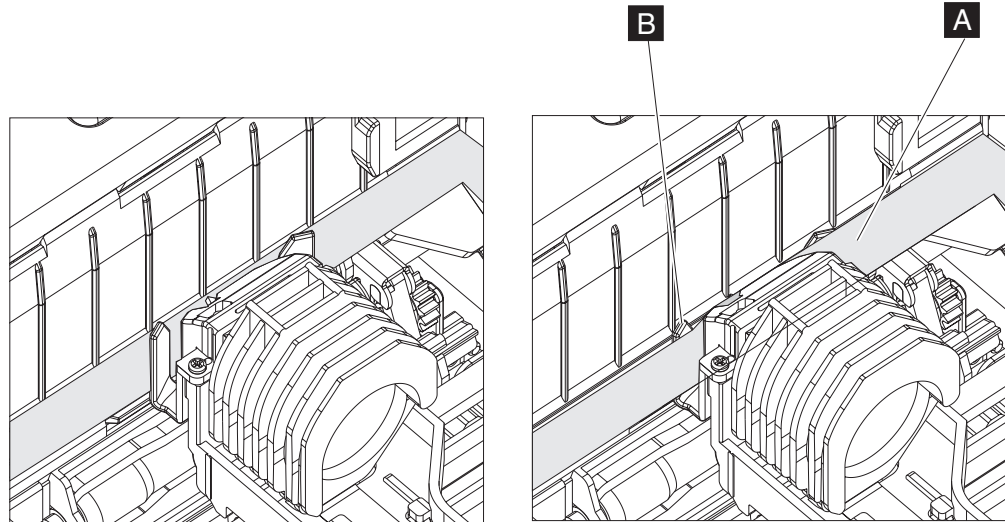

Figure 17. Ribbon path around the printhead. Incorrect placement of the ribbon (A) around the printer guides (B). Correct placement is shown on left.
- Once the cartridge is in place, close the ribbon cover. The ribbon will be moved into the correct position. See Figure 17 for correct ribbon positioning.